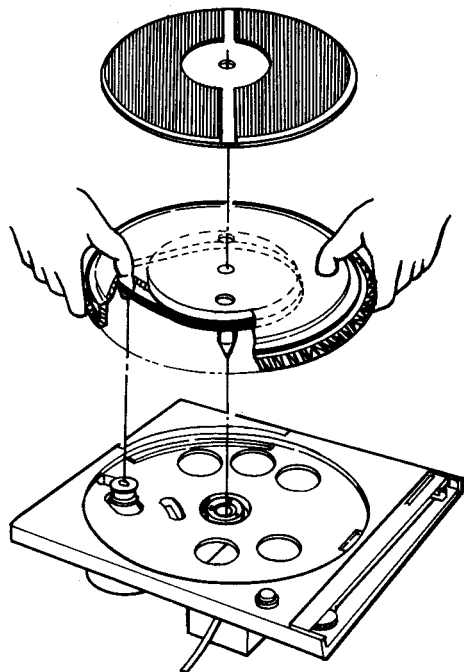

Fig. 2-1 Turntable removal
2. Insert your thumbs into the two large holes of the turntable. Hook one of the thumbs inside the rubber belt to pull it off the drive wheel as shown in Fig. 2-1.